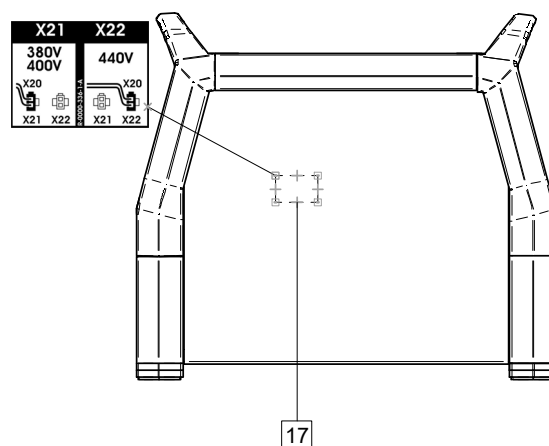

Figure 3
- Put the X20 plug (see Fig. 3) in the proper position: